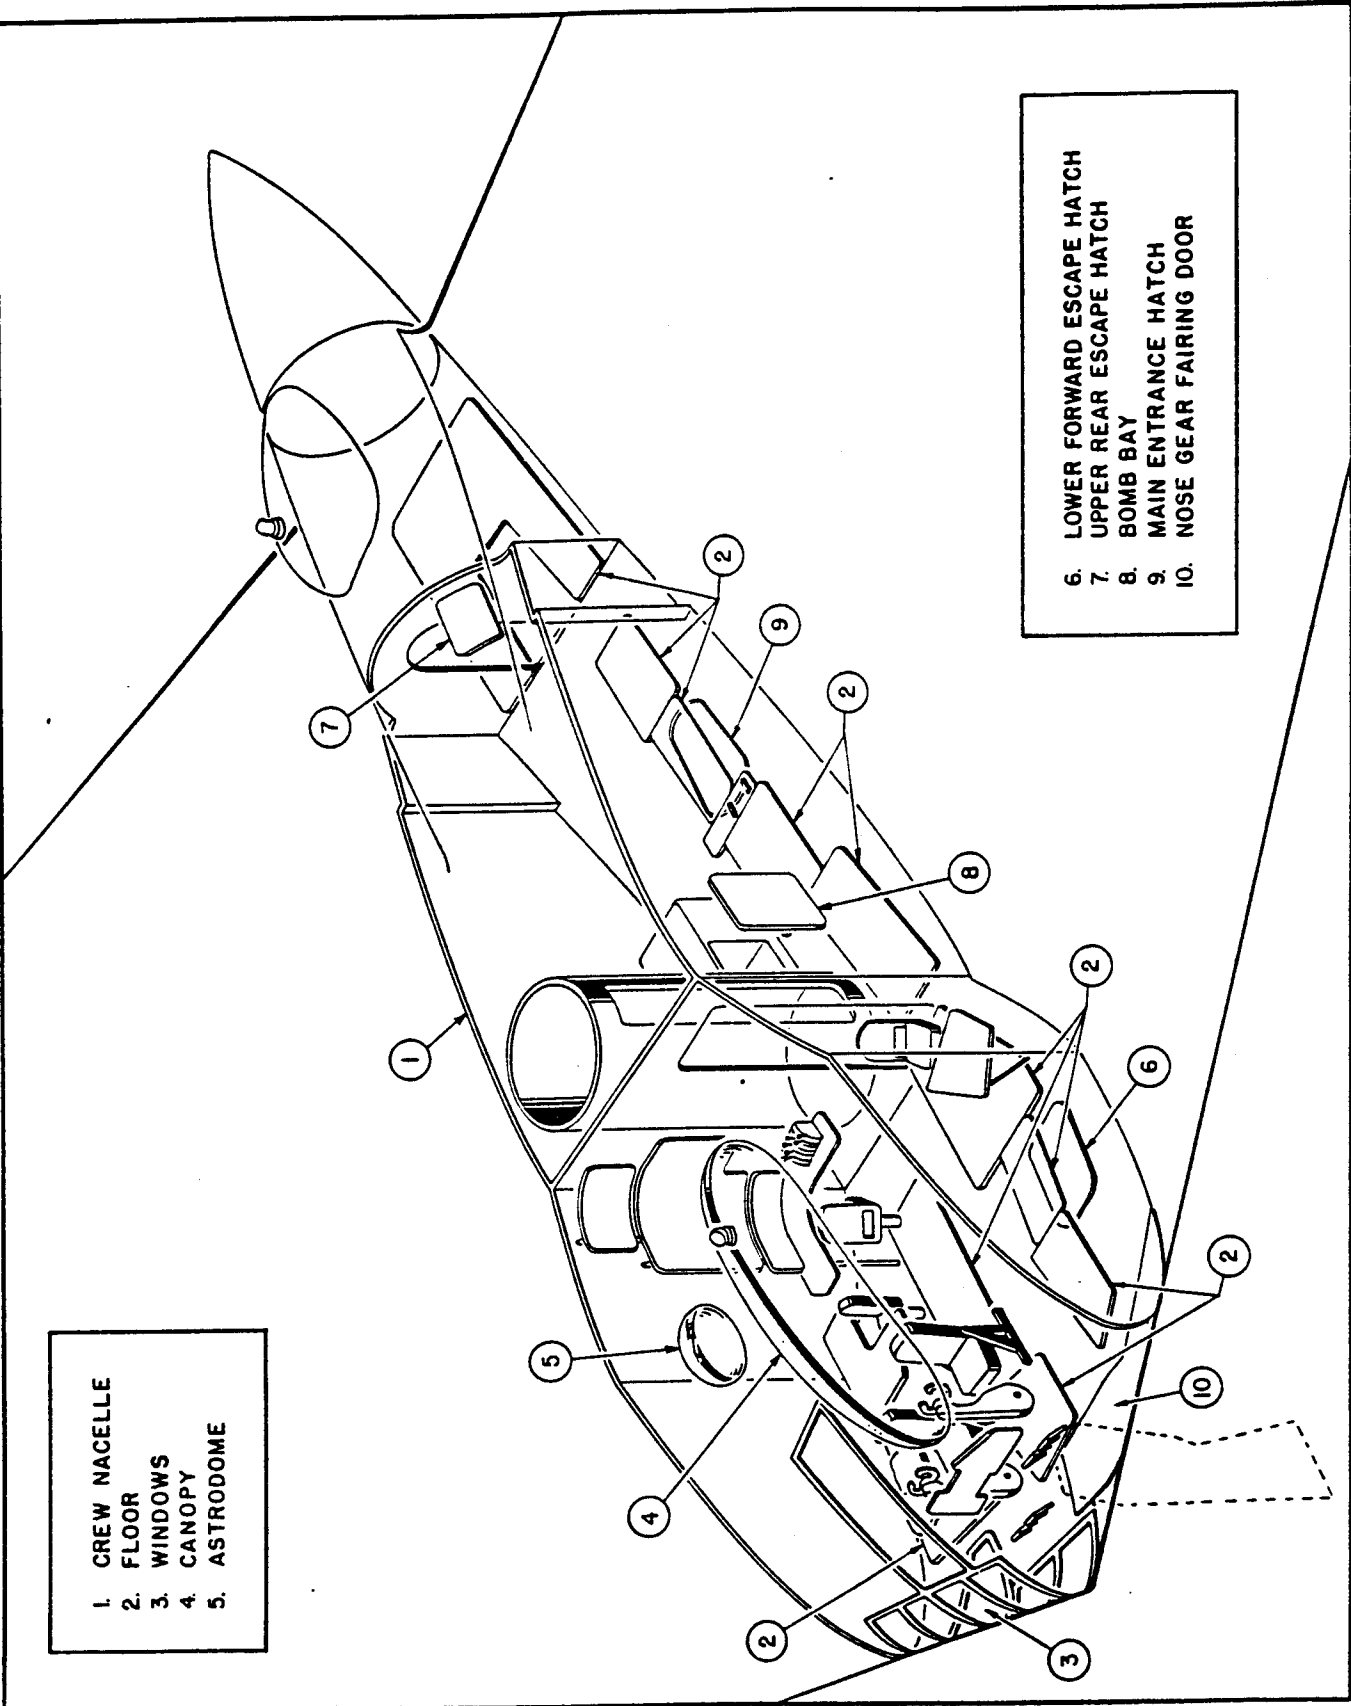

Figure 1. Crew Nacelle
a. DESCRIPTION. (See figure 1.)- The crew nacelle, forming the center section of the wing, is divided into three sections; the forward section, center section, and aft section. Windows are faired into the leading edge of the nacelle to provide vision for the copilot and bombardier, and a canopy is installed on the upper side for the pilot. An astro dome is provided for the navigator. Fairings are installed on the top and bottom of the nacelle to simulate gun turrets and sighting stations.